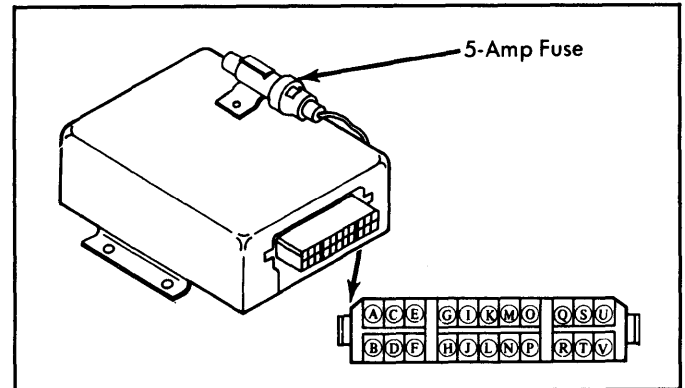

Fig. 2: Control Unit Terminal Identification (California Models)
**California Models** - 1) Check condition of 5-amp fuse. Fuse is located on top of control unit. See Fig. 2. Check that current flows to terminals "A" and "B" when engine is operating at idle speed (about 3-8 volts).